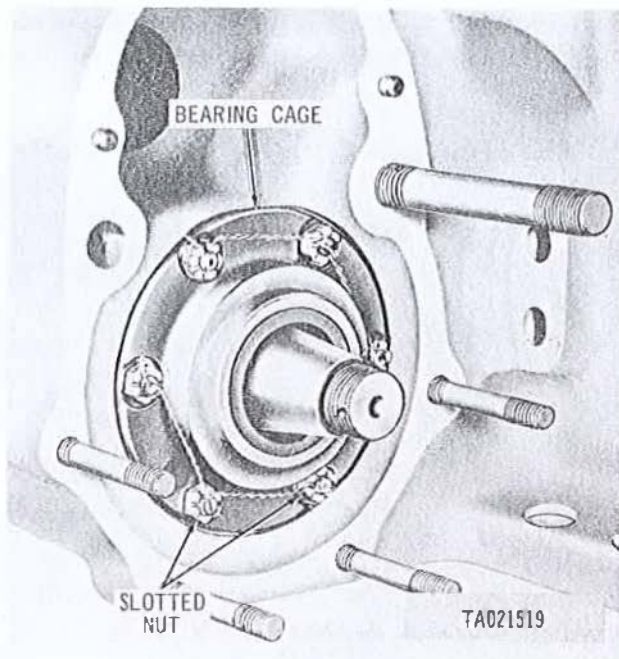

Figure 3-139. Removing or installing starter driven gearshaft bearing cage attaching parts.
d. Cut locking wire and remove six slotted nuts (fig. 3-139) attaching starter driven gearshaft bearing cage to crankcase assembly. Install two 5/16-24 jack screws in holes provided in cage. Alternately tighten jack screws until cage separates from crankcase.